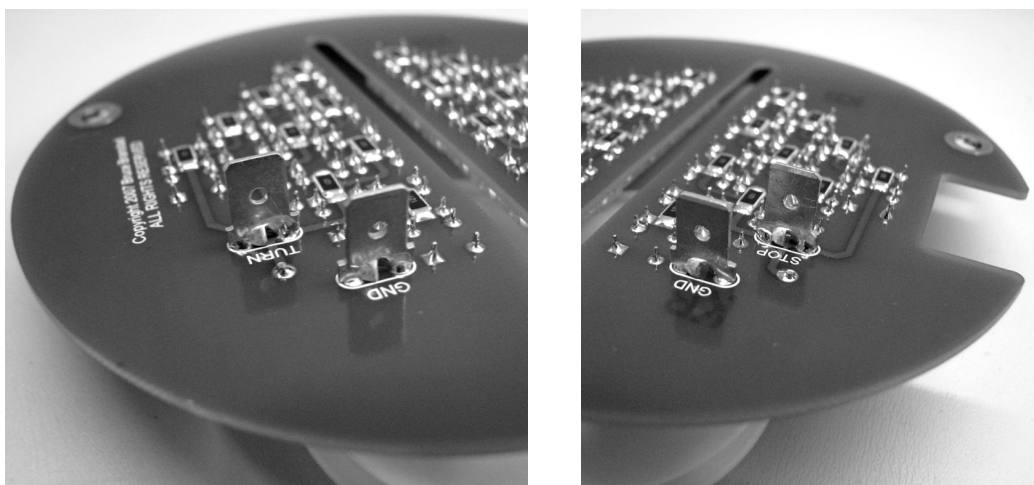

Figure 2
3. Using the original harness wiring, plug the connectors on the back of the board into the correct tabs, which are labeled for convenience as shown in Figure 2. Firmly press the connectors onto the tabs on the Printed Circuit Board (PCB) to insure a good connection. It is not necessary to use both tabs labeled “GND”, either of these can be used as the ground.